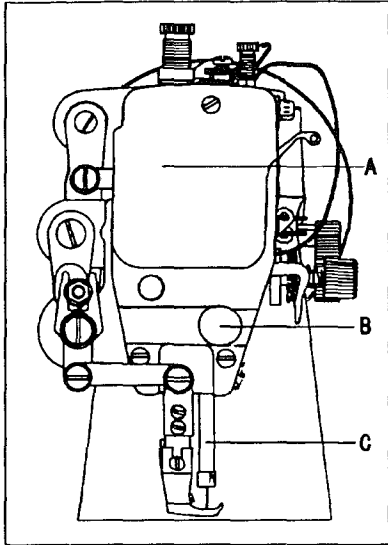
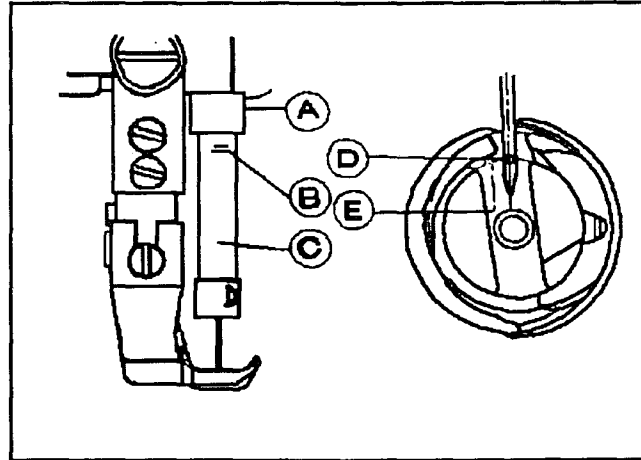

Fig. 17
Fig. 18
16. TIME NEEDLE TO ROTAING HOOK (Fig.17,18,19,20)
A. Adjusting the needle position (See Fig.17)
- 1) Turn balance wheel by hand to bring Needle Bar (C) to the lowest position of its stroke.
- 2) Remove rubber plug from Face Plate (A).
- 3) Loosen Set Screw (B) of needle bar adaptor.
- 4) Move Needle Bar (C) vertically to adjust needle timing.
- 5) After the adjustment, tighten Set Screw (B) and put in the rubber plug. The standard needle timing (See Fig.18) is to align Timing Mark (B) on the needle bar and the bottom of Needle Bar Bushing (A) and meanwhile align the Inner Surface (E) of the hook and the center of Needle Eye (D) when the needle bar gets down to its lowest position.